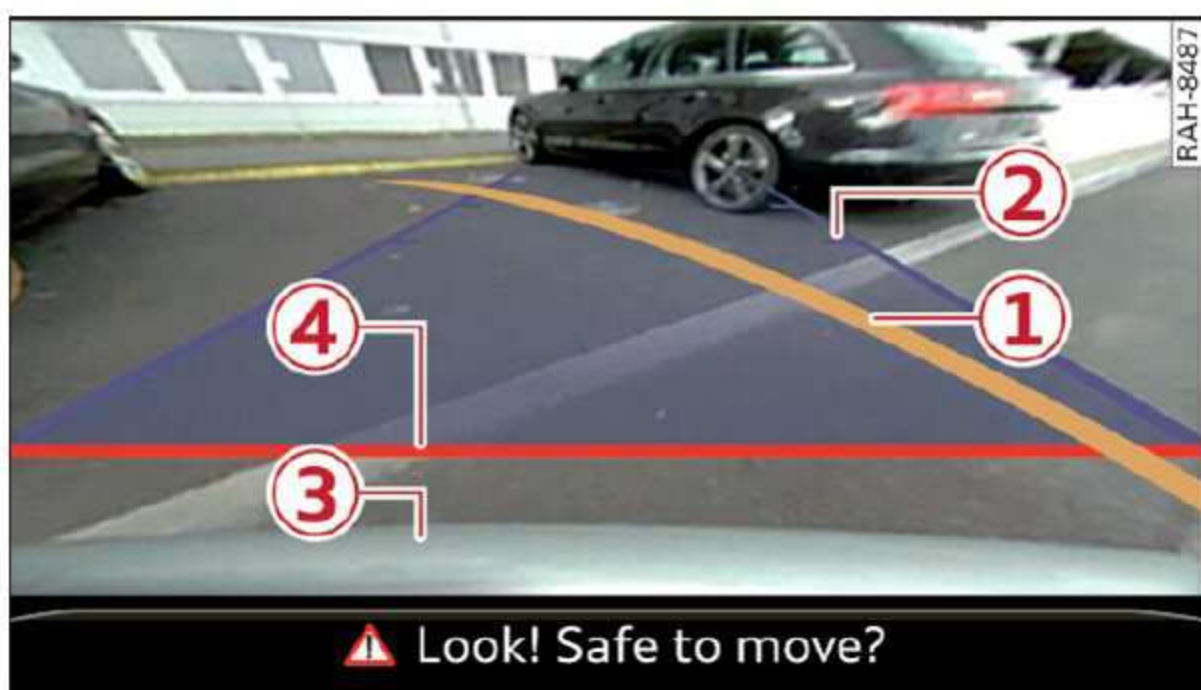

Fig. 89 Infotainment system: aiming at a parking space
- ▶ The orange orientation lines ① show the vehicle's direction of travel. Turn the steering wheel until the orange orientation lines align with the parking space ⇒ fig. 89. Use the markings ② to help you estimate the distance to an obstacle. Each marking represents approximately 3 feet (1 m). The blue area represents an extension of the vehicle's outline by approximately 16 ft (5 meters) to the rear.